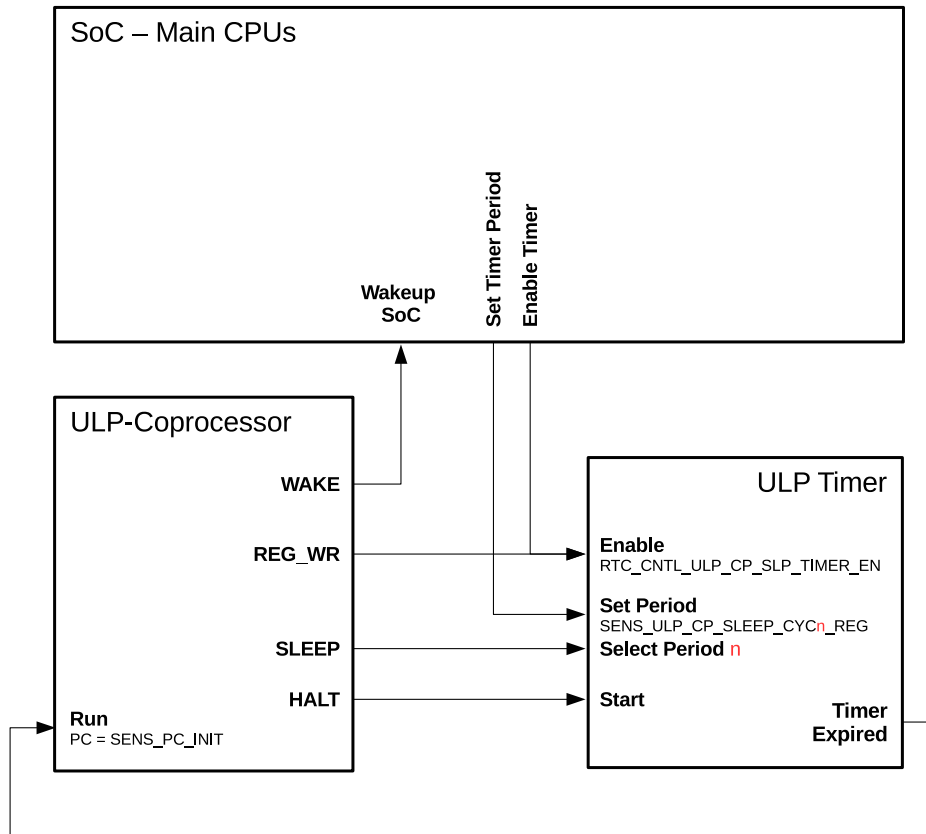

Figure 102: Control of ULP Program Execution
The ULP co-processor puts itself into sleep mode by executing the HALT instruction. This also triggers the ULP timer to start counting `RTC_SLOW_CLK` ticks which, by default, originate from an internal 150 kHz RC oscillator. Once the timer expires, the ULP co-processor is powered up and runs a program with the program counter (PC) which is stored in register `SENS_PC_INIT`. The relationship between the described signals and registers is shown in Figure 102.